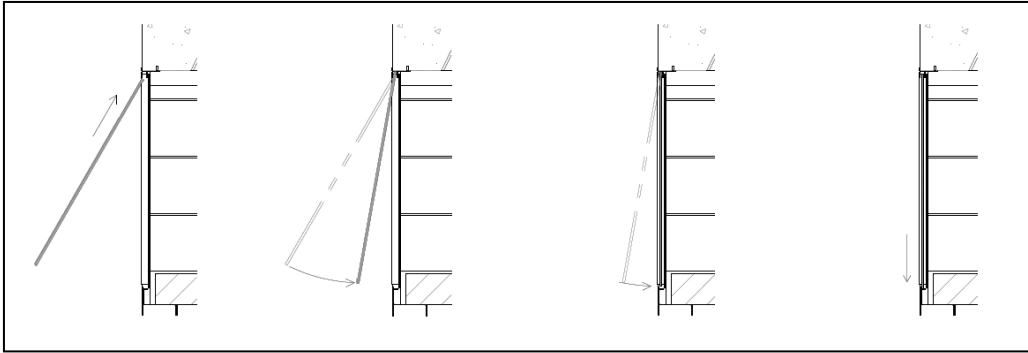

FIGURE 57
- 3) With the panel in an upright orientation, angle the top of the glass towards fireplace and insert the top edge of the glass panel into the channel of the Top Glass Bracket. In the same motion, raise the glass panel's top edge to fully seat in the Top Glass Bracket while swinging the bottom edge of the glass panel in towards the fireplace. The bottom edge of the glass should align to the rear ledge of the Air Collector Box's glass bracket, and the glass should be in a vertical orientation. Gently allow the glass panel to seat into the bottom Air Collector Box glass bracket (**Figure 57**).
NOTE: If this is a multi-panel installation - models: 82L72ST-GFK, 82L96ST-GFK, 82L120ST-GFK, insert the glass in the center of the fireplace and gently slide the glass panel to the fireplace's left sidewall. Install the remaining glass panels in the same manner piecewise from left to right. (**Figure 57**).